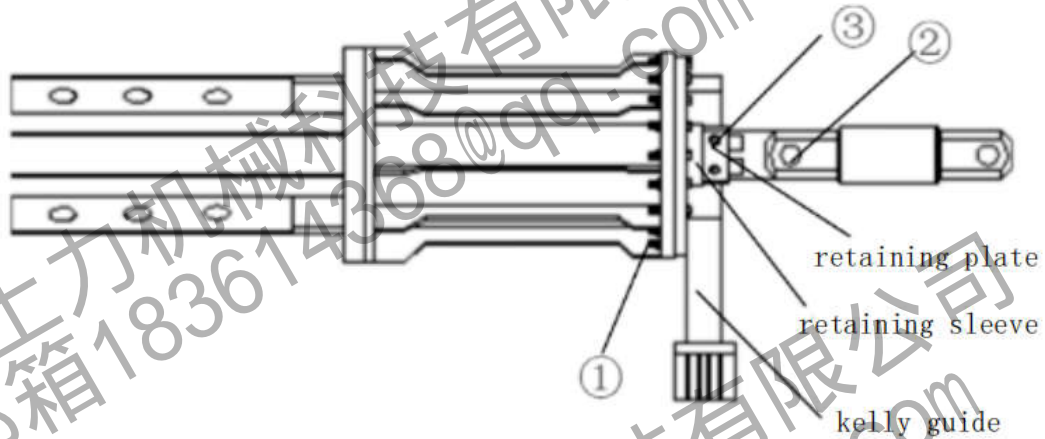

Figure2-1 Schematic diagram of drill pipe disassembly and assembly
Drill pipe disassembly and assembly are shown in figure2-1,2-2
1) Remove the bolt shown in No. 1 in Figure 2-1, and remove the drill pipe guard and guide frame.
2) Remove the pin shaft shown in No. 2 in Figure 2-1 and remove the puller.
3) Remove the bolts shown in No. 3 in Figure 2-1, and remove the two baffle plates and notch rings.
5) Install the pin and swivel shown in number 2 in Figure 2-1.
6) Figure 2-1 shows the installation. Connect the drill pipe guard with the guide frame, tighten the nut and install the bolt as shown in No. 1.